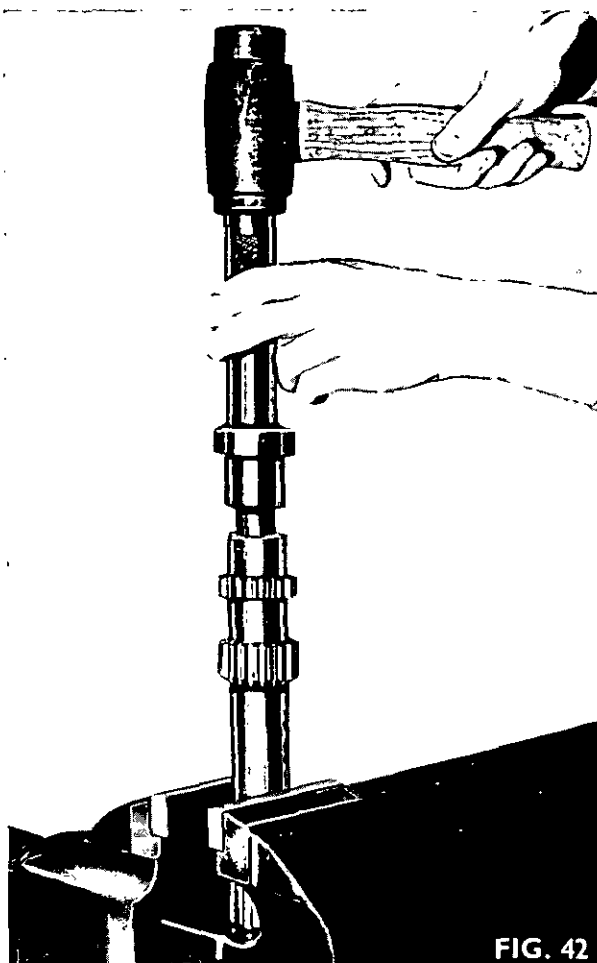

FIG. 42
2. Fig. 42. Position the new needle roller bearing squarely over its bore in the rear driveshaft.